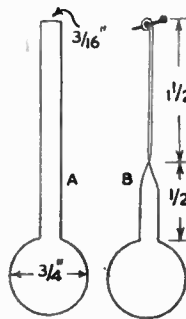
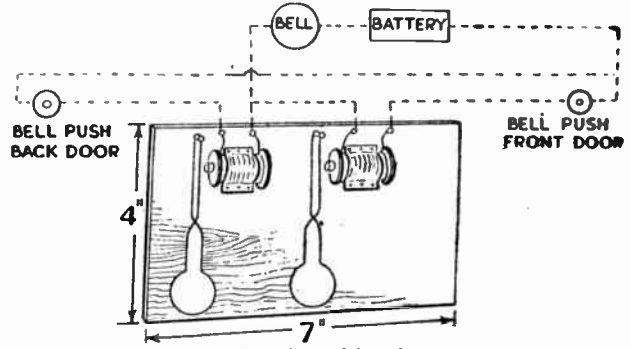
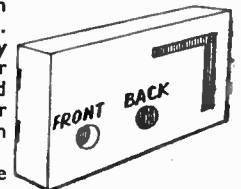

Fig. 4—Pendulums
Fig. 5—Complete wiring diagram
Fig. 6—A cover
The first block is held in a vice, the dowel placed in both with the end projecting sufficient to form your first deadeye. With both blocks held together, tighten the locking screw. Now with a small needle file and rat-tail file, you can now crown the face and turn your groove while rotating the circular block with one hand (see Fig. 5).
In Fig. 4 we have an easily made box jig for cutting off deadeyes of both types, made by hand from dowel rod. For drilling deadeyes the small jig in Fig. 6 can be made; this consists of two pieces of plywood, cut square and of the same thickness of the deadeyes.
The complete wiring is shown in Fig. 5. If desired, a mains transformer can be used instead of a battery. A suitable cover for the unit is shown in Fig. 6 and this can be made to hinge onto the base or to slip tightly over it. (285)